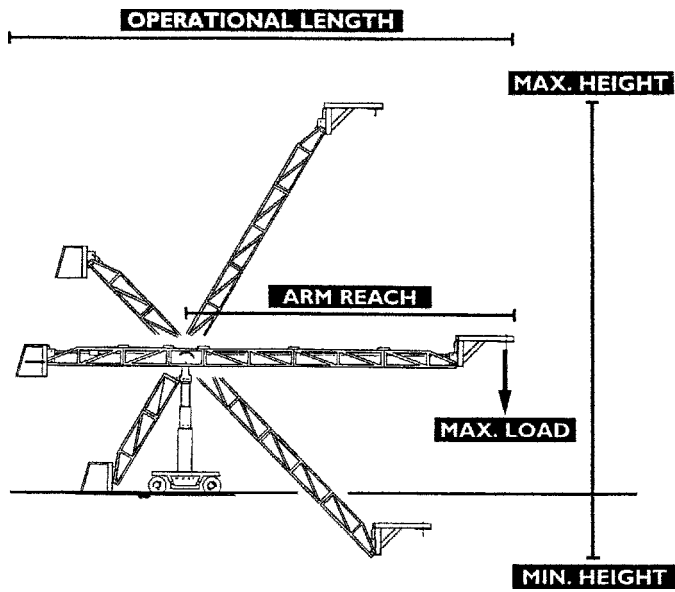

Figure 11.1 Felix.
- **Felix** (Figures 11.1–11.4)